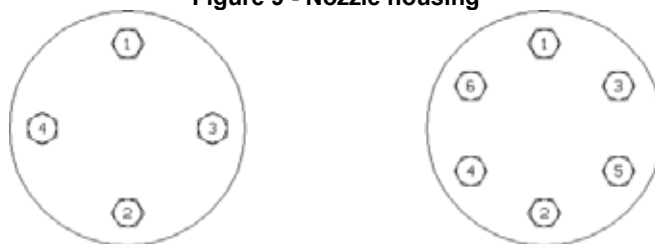

Figure 10 – Bolt torquing sequences for nozzle flanges
3. Install the body stud nuts, and tighten them in the sequence indicated in Figure 10 based on the number of bolts in the bolt pattern and torque to value indicated on the flushing assembly drawing in at least 6 equal torque steps (10%, 20%, 40%, 60%, 80%, and 100% of the prescribed value) unless otherwise specified.